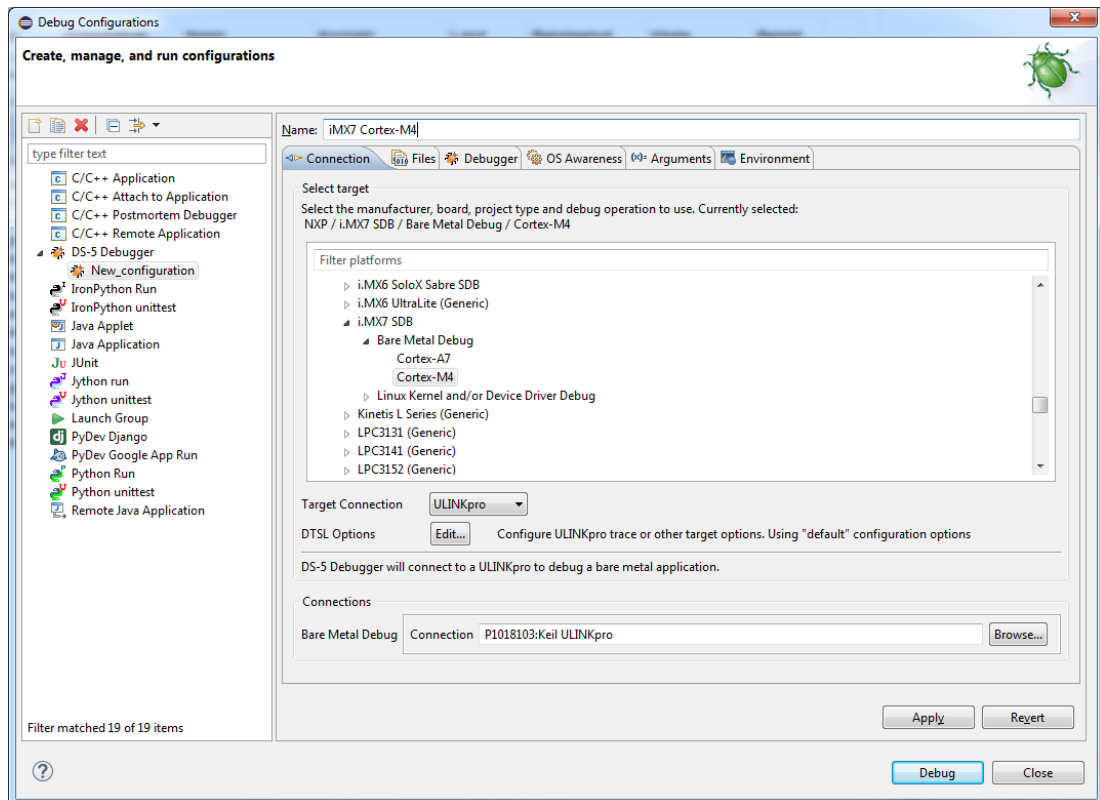

Figure 7 - Setup Debug Connection
3. Give the configuration a name such as iMX7 Cortex-M4 and then select the “Connection” tab as shown in Figure 7.
4. In the “Connection” tab go to NXP → i.MX7 SDB → Bare Metal debug and choose “Debug Cortex-M4” as shown in Figure 7.